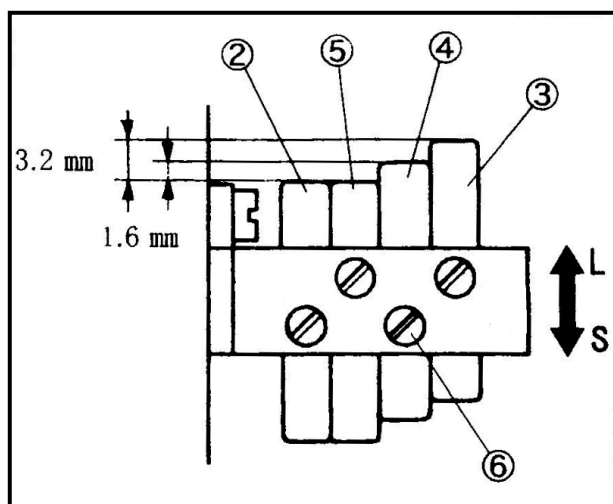

Fig.37
- (2) 第一片②要跟右邊第四針的線平齊。(Fig.37)
- (3) 設定第四片③離第一片②的高度為 3.2mm。
- (4) 設定第三片④離第一片②的高度為 1.6mm。
- (5) 設定第二片⑤離第一片②的高度為 0.8mm。
- (6) 對準後鎖緊螺絲⑥。
- (2) Set the top of pin② even with the needle thread as the fourth right needle. (Fig.37)
- (3) Set the pin③ 3.2 mm higher than the pin②.
- (4) Set the pin④ 1.6 mm higher than the pin②.
- (5) Set the pin⑤ even with or 0.8 mm higher than the pin②.
- (6) Tighten the screws⑥ securely.